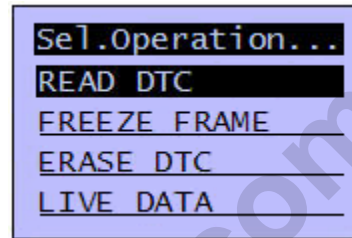
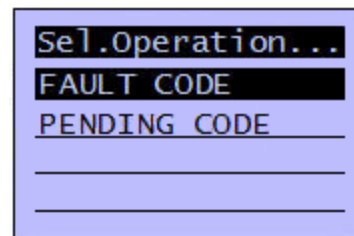
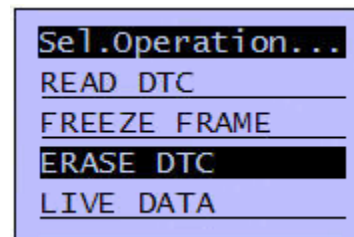

Figure 13
Figure 14
Figure 18
10. As instructed, press  to continue and it will enter into the main menu (Figure 13).
(Figure 13), pressing  key will proceed to the selection choice. (Figure 14).
To start this function, go back to the previous menu (Figure 13) and select "Erase DTC" as shown (Figure 18) by
To Exit this function, press  key will return back to the main menu screen (Figure 18).
To start this function, go back to the previous Menu (Figure 13) and select 'Live Data' row as shown (Figure 21).
To Exit this function, press  key will return back to the main menu screen (Figure 13).